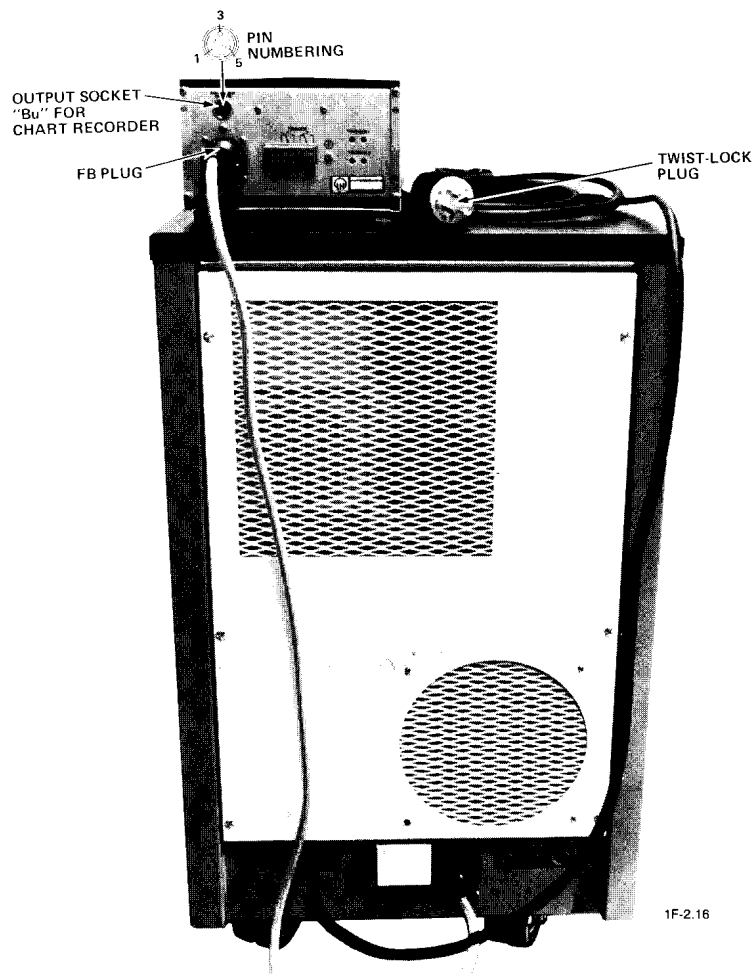

Figure 2-1 - Rear View of the ULTRATEST F
Connect the female end of the 1.5-meter cable to the Plug FB outlet on the back of the FB module; connect the male end of the cable to its outlet on the back of the leak detector (see Figure 2-1).
Install the special twist-lock outlet that came with the ULTRATEST onto a suitable power supply and plug the twist-lock plug of the leak detector into the outlet (see Figure 2-1).
7. If you want to install a chart recorder, connect the plug (P/N 500-17-119) of the recorder onto the 6-pin output socket on the back of the FB module (see Figure 2-1). The function of each lead-out connection is as follows: